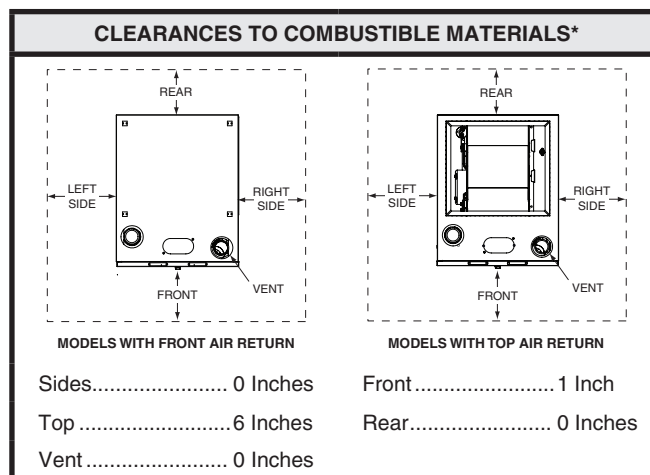

Figure 1. Minimum Clearances
- The area around the gas furnace (Figure 1, (page 4)) and the vicinity of any other gas appliances must be kept clear and free of combustible materials, gasoline, and other flammable vapors and liquids. Do not store or use flammable items such as paint, varnish, or strippers in the vicinity of the unit.
free of insulating material. See Figure 1 below.